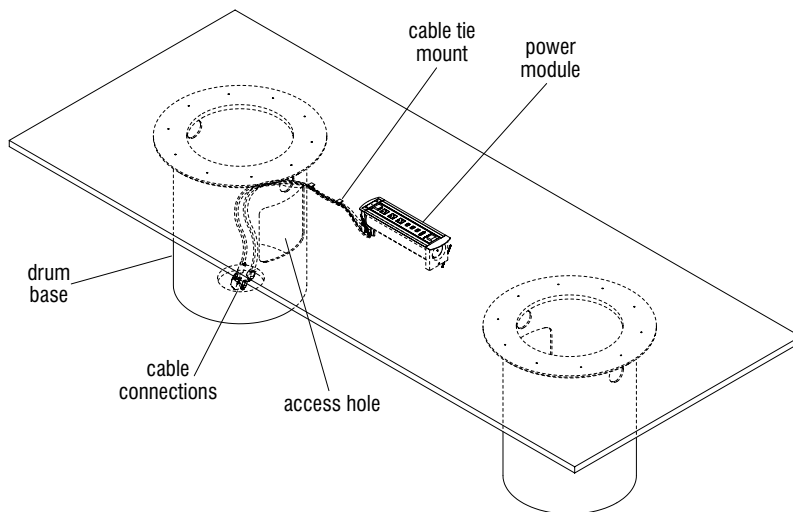

Figure 3
5. From underneath the table top, route the Ethernet, VGA and power cables against the underside of the table top (Figure 3).
6. If cables are to be routed through or into a leg, remove the access panel and route the cables through the cable hole(s). Connect any of the cables to their associated connections (Figures 3 & 4).
7. Once the cables are completely routed and connected, use cable tie mounts to secure the cables to the underside of the table. Make sure all cables are not loose and/or hanging (Figures 3 & 4).